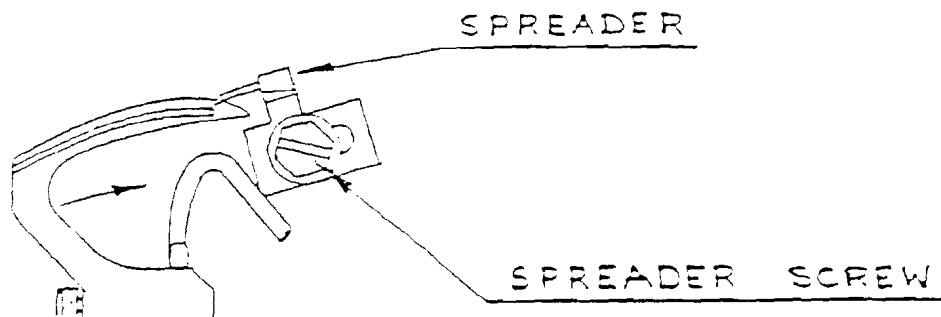

Fig. 20
- the point of the spreader should be exactly opposite the top of the thread groove and to the left hand side of the looper Fig 20